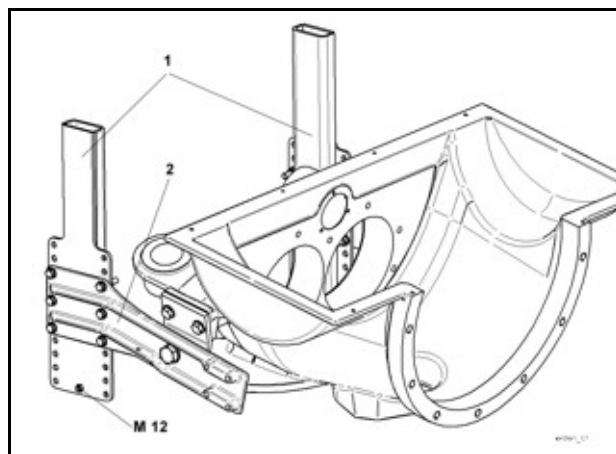

Fig. 58 Rock valve support
A stainless steel screw M12 with nut is pre-installed for the earthing connection on one of the two vertical spars (1) (**Fig. 58**) on the rock valve support (screw inside, nut outside).